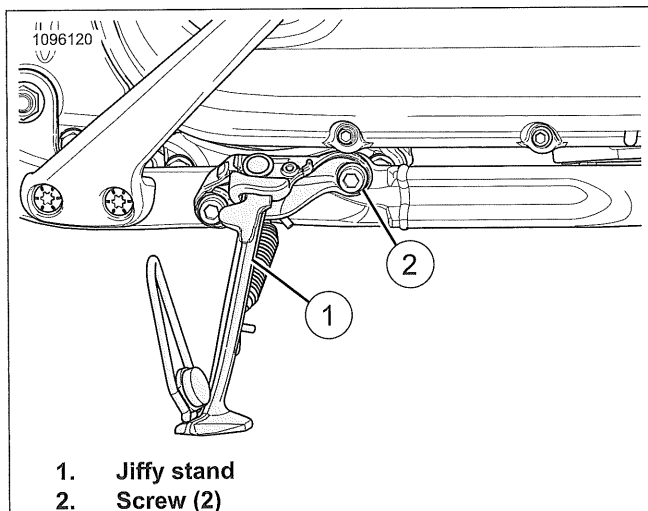

Figure 3-141. Jiffy Stand Screws
1. See Figure 3-141. Lower jiffy stand (1).
2. Remove screws (2).
1. See Figure 3-141. Install Jiffy stand (1).
2. Install screws (2). Tighten.